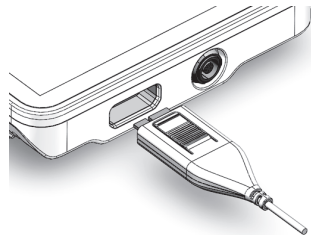

Figure 7. Connect the endoscope signal plug to the Video Image Processor
- When using an electronic endoscope that matches signal interface 2, ensure that the Video Image Processor is powered off, then connect the endoscope to the Video Image Processor and turn on the processor. When attaching an endoscope to the processor, snap the endoscope signal board up and insert it to make the connection (Figure 7).